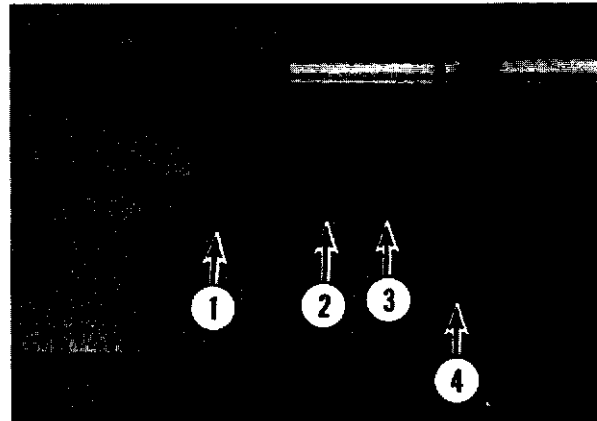

Fig. 10-1
- A. Remove the agitator shaft plug (1, Fig. 10-1).
- B. Remove the locking set screw (2, Fig. 10-1) and the cone point set screw (3, Fig. 10-1).
- C. Remove the agitator shaft pin (4, Fig. 10-1), use a punch to drive the pin from the back side of the shaft.